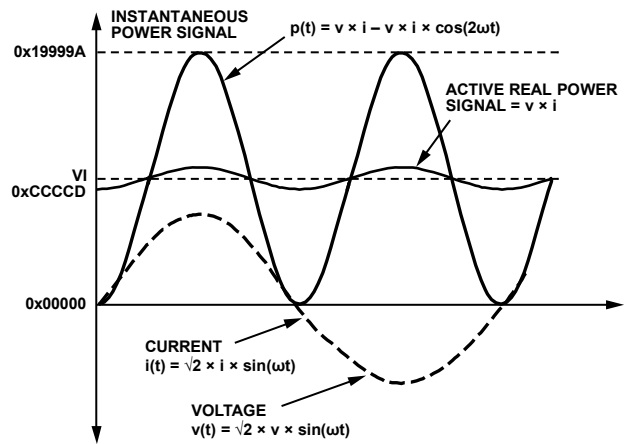

Figure 42. Active Power Calculation
Note that the active power is equal to the dc component of the instantaneous power signal  $p(t)$  in Equation 9, that is,  $VI$ . This is the relationship used to calculate active power in the ADE5166/ADE5169/ADE5566/ADE5569. The instantaneous power signal  $p(t)$  is generated by multiplying the current and voltage signals. The dc component of the instantaneous power signal is then extracted by LPF2 (low-pass filter) to obtain the active power information. This process is illustrated in Figure 42.
The ADE5166/ADE5169/ADE5566/ADE5569 also incorporate an active power offset register (WATTOS[15:0]). It is a signed, twos complement, 16-bit register that can be used to remove offsets in the active power calculation (see Figure 42). An offset can exist in the power calculation due to crosstalk between channels on the PCB or in the IC itself. The offset calibration allows the contents of the active power register to be maintained at 0 when no power is being consumed.
As mentioned in the Active Energy Calculation section, the discrete time sample period (T) for the accumulation register is 1.22 μs (5/MLCK). With full-scale sinusoidal signals on the analog inputs and the WGAIN register set to 0x000, the average word value from each LPF2 is 0xCCCCD (see Figure 42). The maximum positive value that can be stored in the internal 49-bit register is 248 (or 0xFFFF,FFFF,FFFF) before it overflows. The integration time under these conditions when WDIV = 0 is calculated in the following equation: